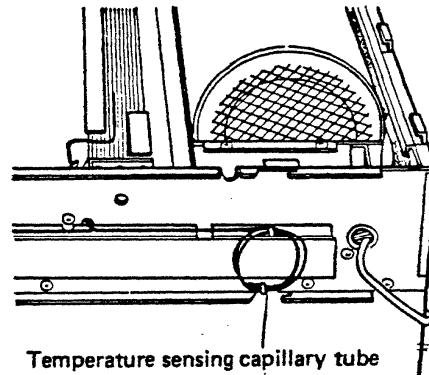

Fig. 4
- 2) Unclamp and stretch the temperature sensing capillary for the anti-freeze thermostat. Fig. 4